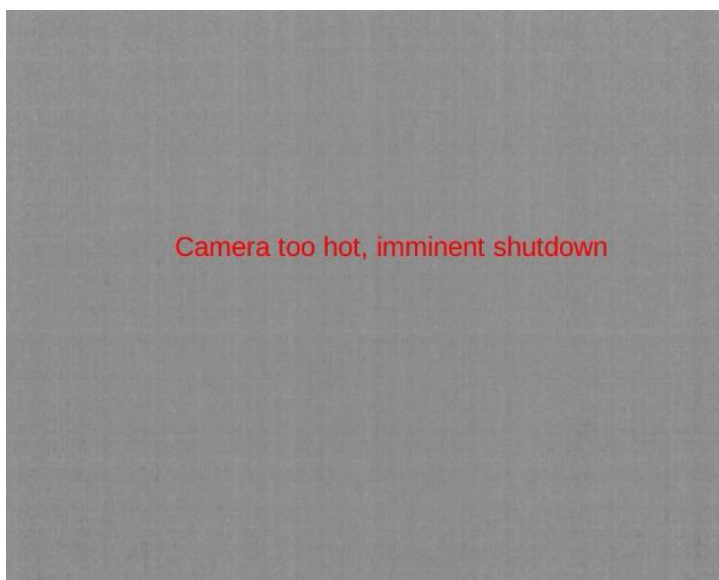

Figure 39: “Overtemp” Symbol (Factory-Default)
- **Overtemp State:** By factory default, the symbol shown in Figure 39 is displayed whenever the camera is in the overtemp state. (See Section 7.2 for full description of this state.)